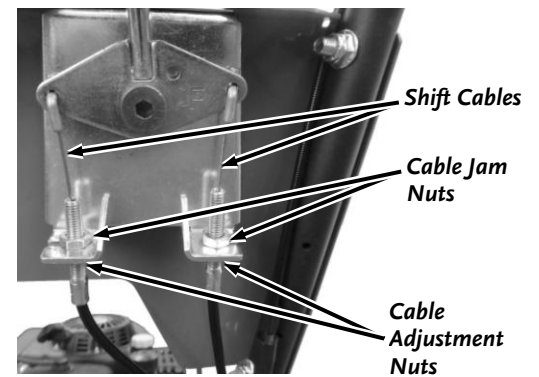

Figure 30
1. Locate the Shift Cable Adjustment Nuts on the Shift Lever end of the cable (**Figure 30**).
**Note:** Make sure the Belt is routed correctly between the front Idler Pulley and the Idler Arm Tab as shown in Figure 30.